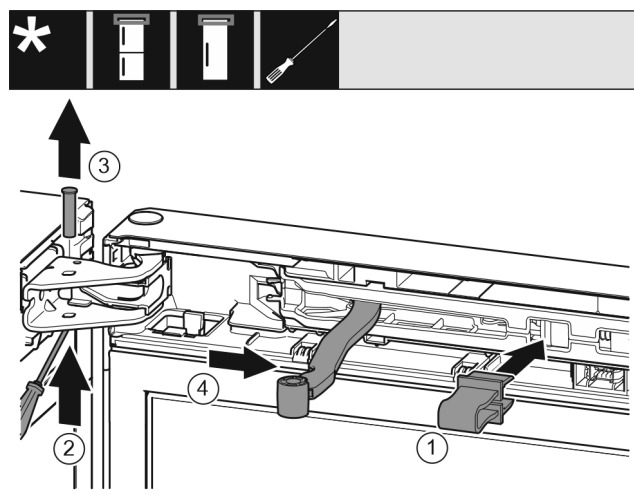

Fig. 10
- Latch safeguard Fig. 10 (1) into opening.
- Slide out the bolt Fig. 10 (2).
- Remove the bolt Fig. 10 (3) upwards.
- Turn the joint Fig. 10 (4) towards the door.